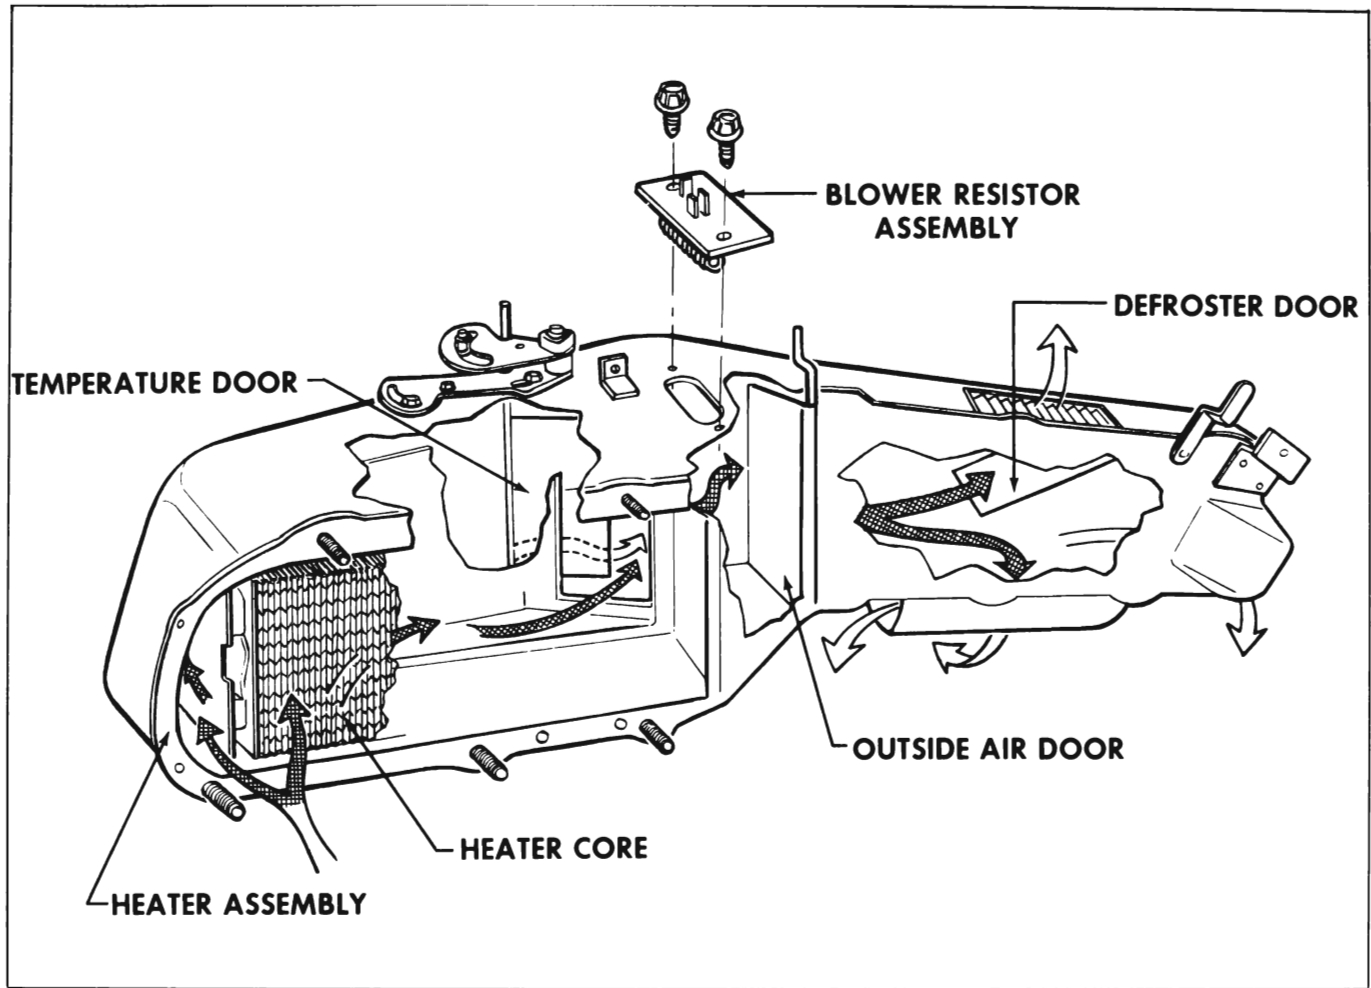

Figure 11-12—Heater Assembly
2. **Heater Assembly**—The heater assembly (see Figure 11-12) houses the heater core and the doors necessary to control mixing and channeling of the air. Air entering the heater assembly divides into two channels: (1) through the heater core and (2) through a by-pass around the
6. Remove connector from blower resistor assembly (see Figure 11-12).